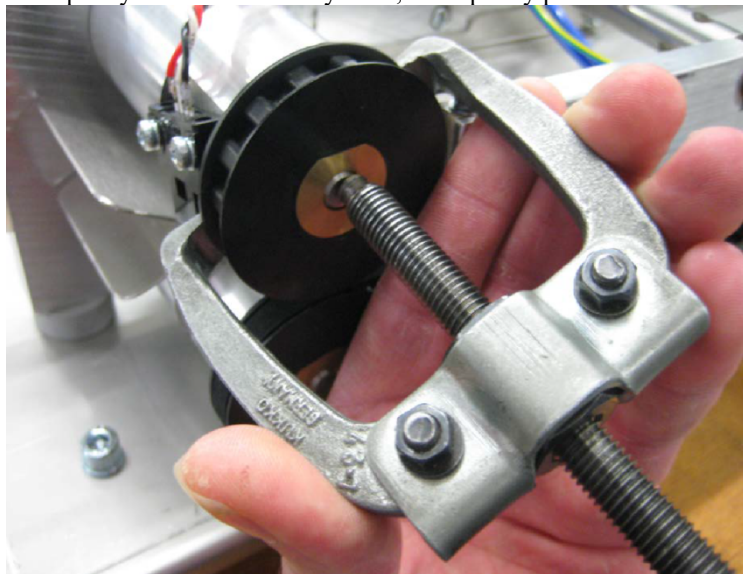

Figure 5
5. If the pulley cannot be freed by hand, use a pulley puller to remove. **Fig. 5**